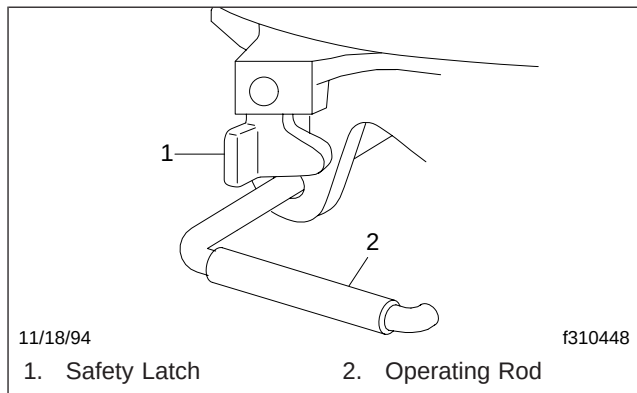

Fig. 10.12, Simplex Kingpin Locking Mechanism, Safety Latch (locked position)
During coupling, the kingpin contacts and rotates the jaw into the locked position. This action automatically moves the operating rod into the locked position. This securely locks the jaw around the kingpin. In the locked position the safety latch swings freely over the operating rod. See **Fig. 10.12**.
7. Make a visual check (even if equipped with the Touchloc air-operated system) for positive kingpin lockup. The trailer bed plate must be flush on the fifth wheel plate surface. When positive lockup has occurred, the fifth wheel operating rod will have moved inward to the locked position, and the safety latch will swing freely over the operating rod. See Fig. 10.12.